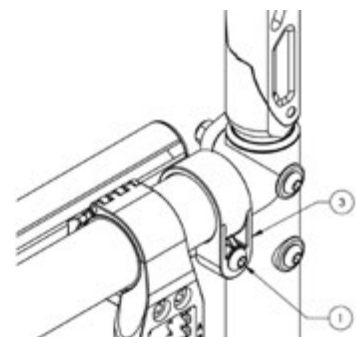

Fig. 13
- Reinstall screw (1) directly on the frame clamp (3) (Fig. 13)
- Tighten screw (1) until it is properly tightened.